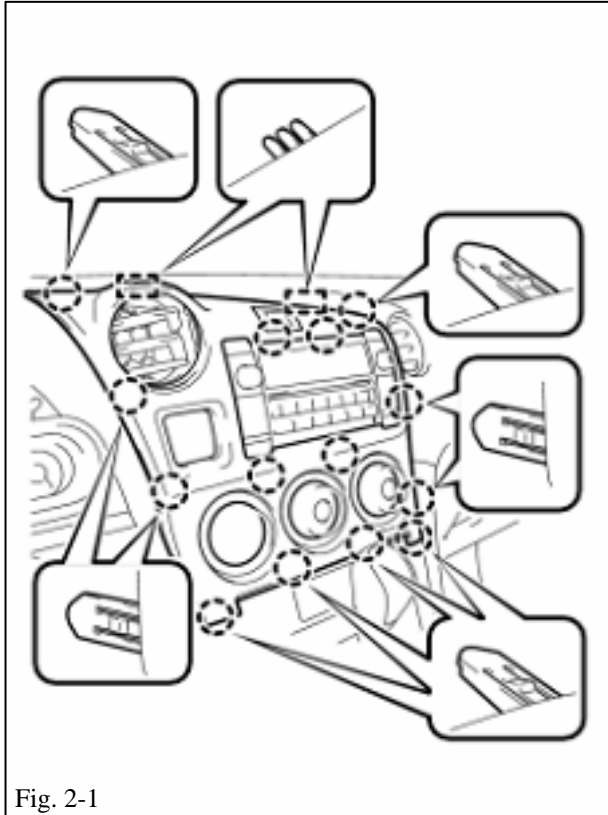

Fig. 2-1
(1) Disengage the fourteen (14) claws and two (2) guides. (Fig. 2-1)
(2) Disconnect each connector.